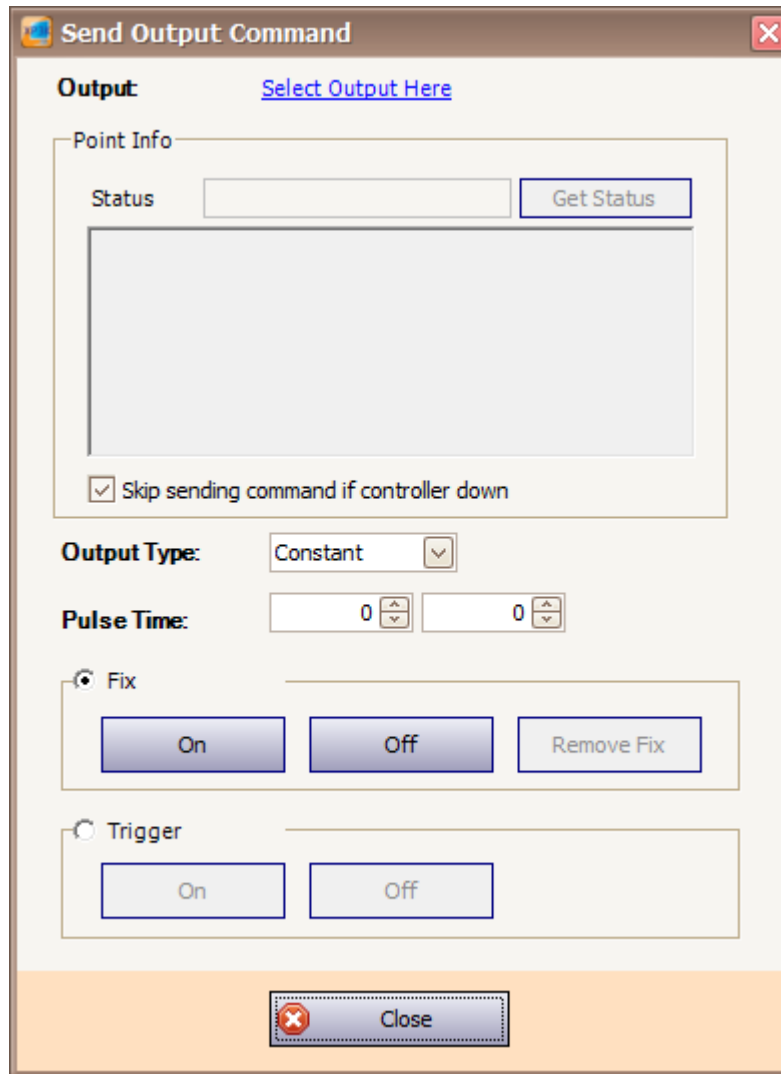

Figure 260 - Send Output Command
2. The following window will be shown (Refer **Figure 260**).